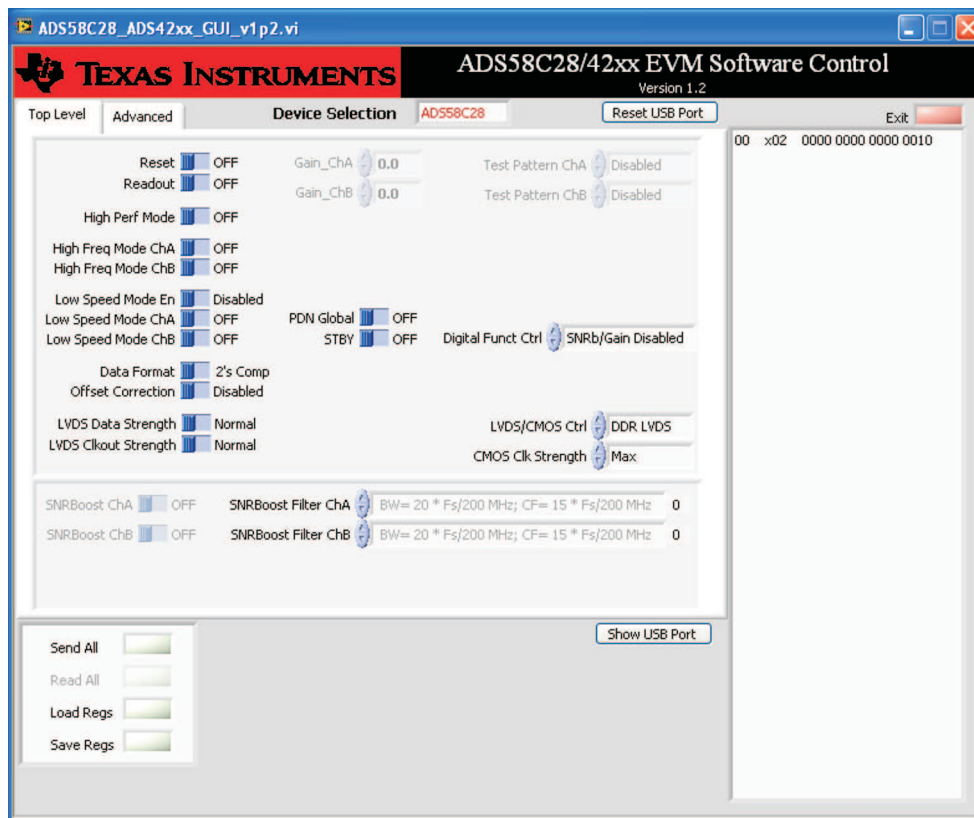

Figure 1. ADS58C28\_ADS42xx\_GUI Front Panel – Top Level
The software allows full programming control of the ADC device. Figure 1 shows the GUI front panel that has two register tabs: Top Level and Advanced. The Top Level tab provides an interface to the most used registers. The Advanced tab includes less used registers and provides an option to manually input address and data values.
**Figure 1** shows the Top Level tab of the register user interface. Below is a brief explanation of the controls. Please refer to the ADS58C28 datasheet for more detailed explanations of the register functions as needed.